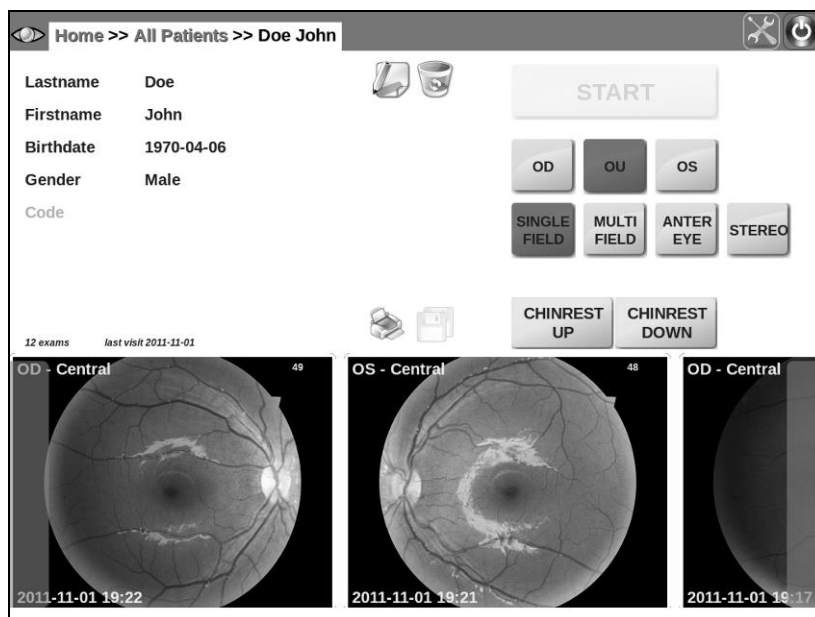

Figure 19 - Patient record screen
Once the image(s) has (have) been acquired, the system will open the patient's individual record and present a thumbnail view of all the available images (see Figure 19).
- Patient record screen (same as Figure 19)